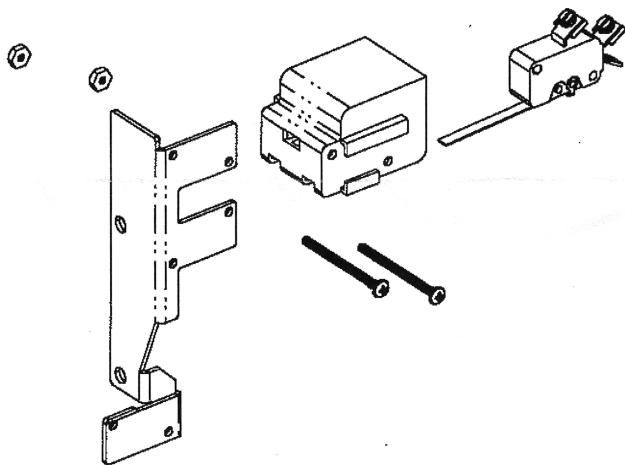

FIGURE 1
2. Install the alarm initiating switch into the switch cover for the upper tab of the switch mounting bracket. To install the alarm initiating switch in the switch cover, slide the switch into the large opening of the switch cover, oriented with the switch lever on the bottom side of the switch. See Figure 1.